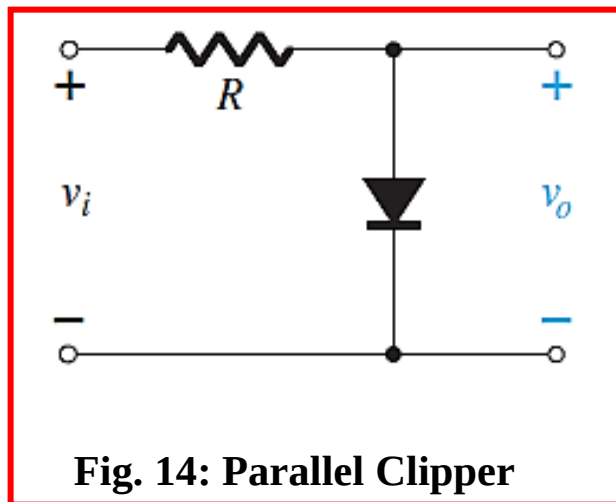

Fig. 14: Parallel Clipper
- The simplest parallel clipper is shown in **Fig 14**.